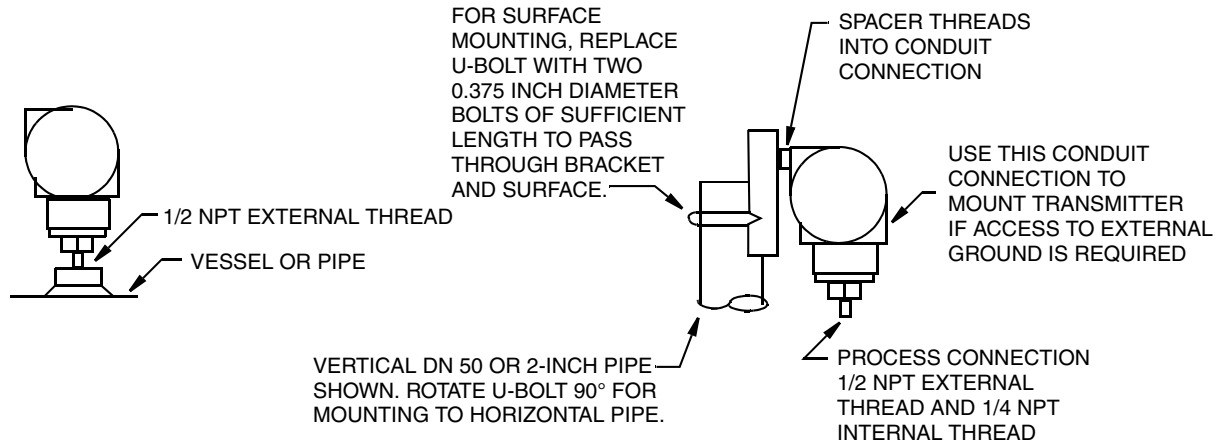

Figure 4. IAP10 and IGP10 Transmitter Mounting
The IAP10 and IGP10 transmitters with the 1/2 NPT external thread can be directly connected to the process or mounted to a vertical or horizontal pipe or a surface using the optional mounting set. See Figure 4.
2. Do **not** directly mount IGP10 transmitters with Span Limit Code G or H. Use the optional mounting set as shown in Figure 4.